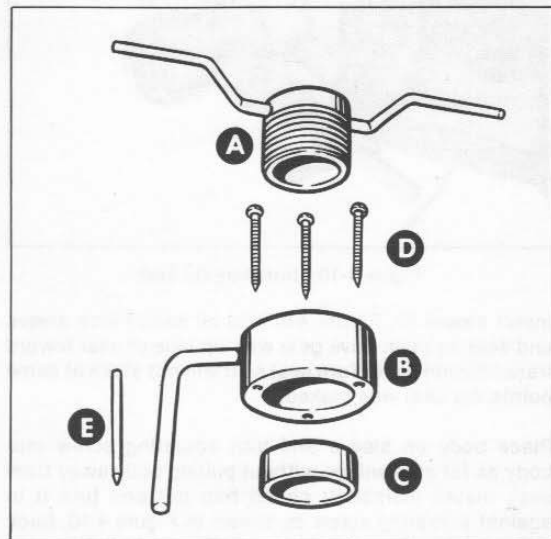
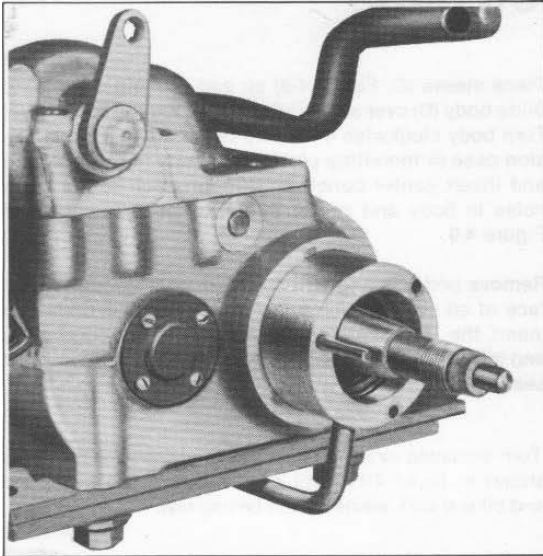

Figure 4-8. Main Drive Gear Oil Seal Tool
Figure 4-9. Centerpunching Screw Hole Locations
Main Drive Gear Oil Seal Tool, Part No. 95660-42, (Figure 4-8) enables removing worn or damaged oil seal and installing new seal without removing or disassembling transmission. It may be used on transmission removed from chassis as well. To use, transmission must be assembled with the exception of clutch and transmission sprocket.
Place sleeve (C, Figure 4-8) on end of main drive gear. Slide body (B) over sleeve with body stop rod downward. Turn body clockwise until stop bears against transmission case or mounting plate. Hold body in this position and insert center punch (E) through each of the three holes in body and center punch oil seal as shown in Figure 4-9.
Insert sleeve (C, Figure 4-8) into oil seal. Place sleeve and seal on main drive gear with lip side of seal toward transmission case. Turn seal so it will not stake at same points old seal was staked.